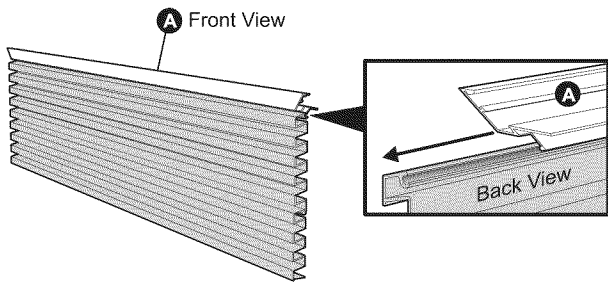

Figure 3
- Slide grill assembly into top collar trim (A). Tape together to prevent from sliding. See Figure 3.